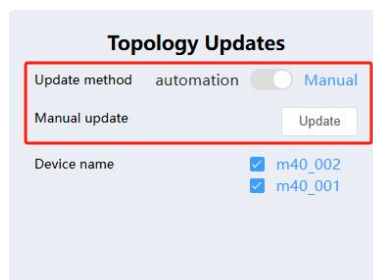

Figure 6.7.3 Puff diagram manual update
**Manual Update:** If you select Manual Update in Figure 6.7.3, you need to click the Update button to update the topology network status, device information, link information, etc. on the right side.